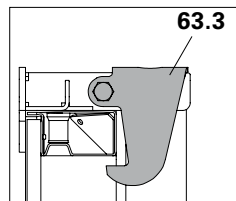

Fig. A7.17
- The retaining claw (63.3) grips the frame profile and the concreting platform is secured. (Fig. A7.17)
Does the hook of the retaining claw (63.3) grip the frame profile of the panel (10.7)? (Fig. A7.17)